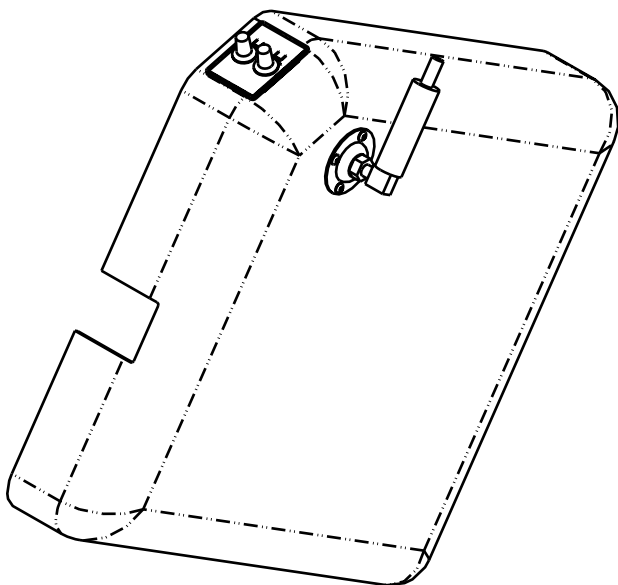

Figure 4
8. Mount the swivel base to the outside of the side guard using the four screws provided(Figure 4).